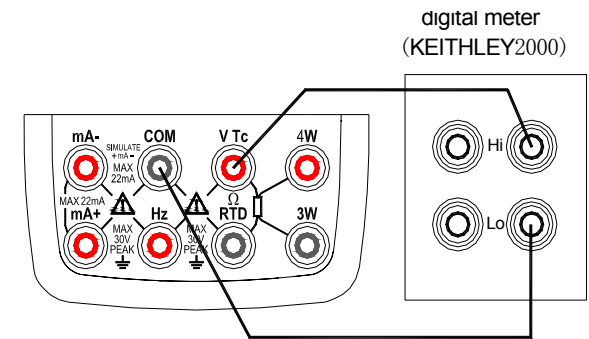

Figure 11 Adjusting voltage source
Step 1: Using the key (V), select DC voltage function. Connect the lead cables for measurement to the standard digital meter as shown in Figure 11.